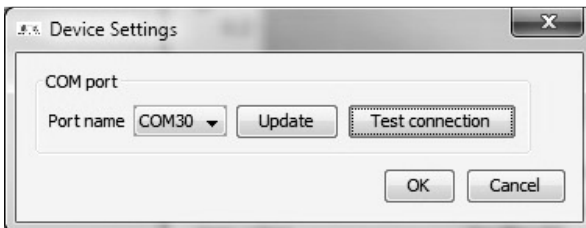

Fig. 4: Window „Settings“.
- In the menu bar, click 'Device – Settings' or the symbol 'Settings' in the tool bar. The 'Settings' window opens (Fig. 4).